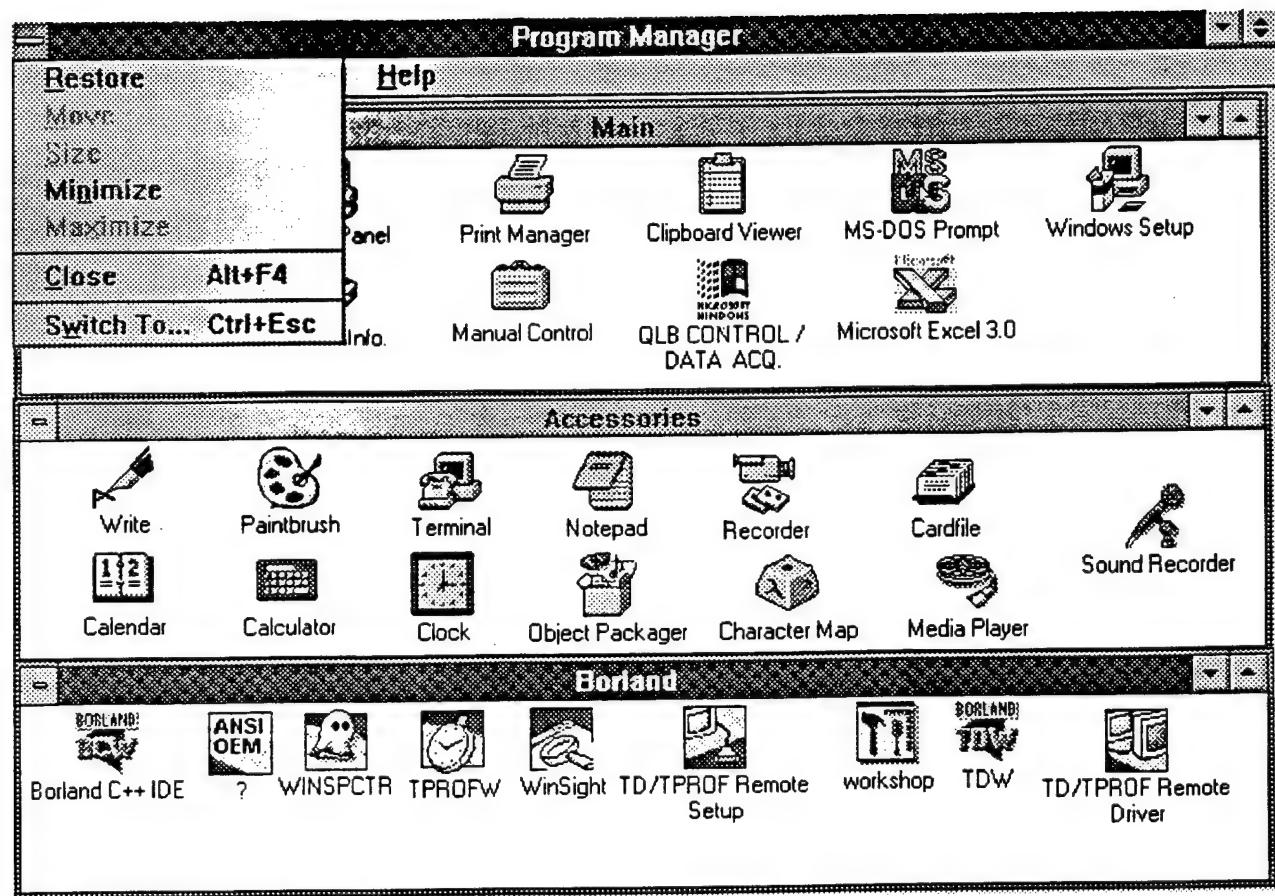

Figure 2-2. Windows Program - Main Menu.
**2.2.3.2 Windows Program.** Type "WIN/S" and ENTER. The monitor will display Program Manager screen (Figure 2-2).
With the computer program in Windows (Figure 2-2), use the mouse to execute the following: